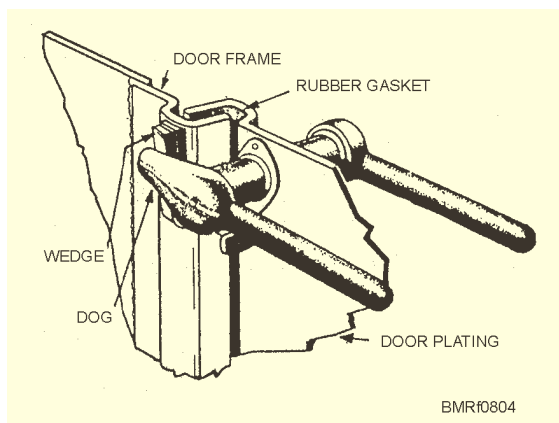
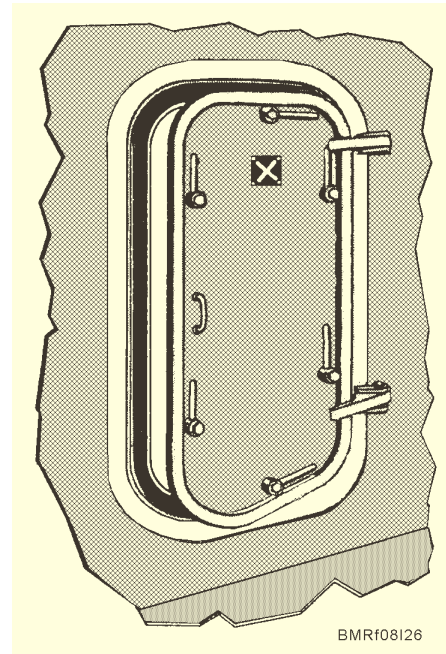
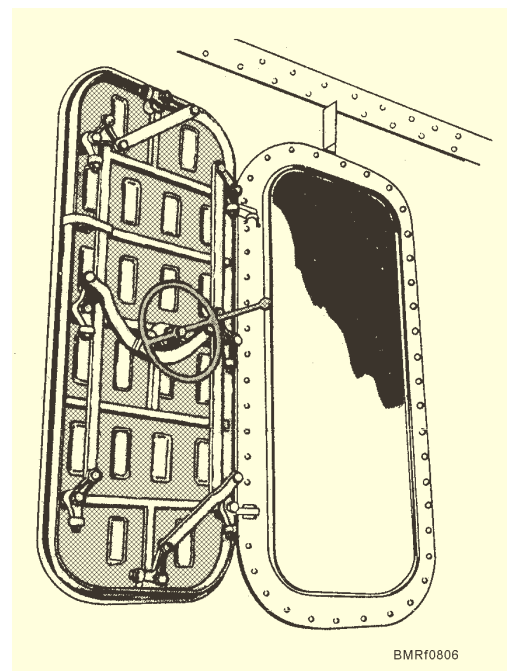

Figure 8-4.—Dogs and gasket for watertight door.
Figure 8-5.—Watertight door with individually operated dogs.
Figure 8-6.—Quick-acting watertight door.
Access through bulkheads is provided by *doors* and through decks by *hatches*. *Watertight (WT) doors*, as the term implies, form a watertight seal when properly closed. All doors leading to weather decks are of the watertight variety, as are those in structural (watertight) bulkheads. (See fig. 8-4.) The doors are held closed by fittings called *dogs*, which bear up tight on wedges. A rubber gasket around the edge of the door presses against a knife-edge around the doorframe forming a watertight seal when all dogs are properly seated (*dogged down*). Some doors have individually operated dogs, as shown in figure 8-5. Other doors are quick acting types, for which a handwheel or lever operates all the dogs at once, as shown in figure 8-6. Some WT doors have openings, called *passing scuttles*, through which ammunition is passed. These scuttles (small tubelike openings) are flashproof as well as watertight.